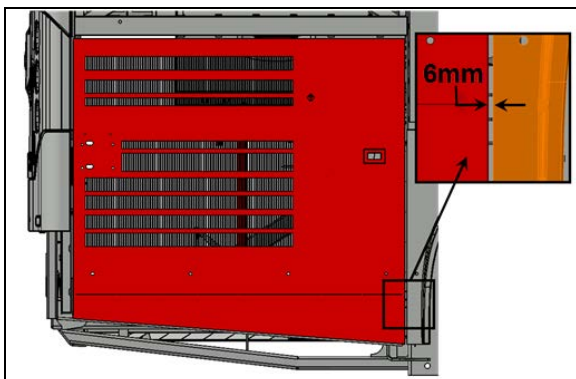

FIGURE 111
7. Check the gap between the door and the adjacent panel at the level of the lower attachment point of the arm on the door. The gap should be $1/4"$ (6 mm) (FIGURE 111).